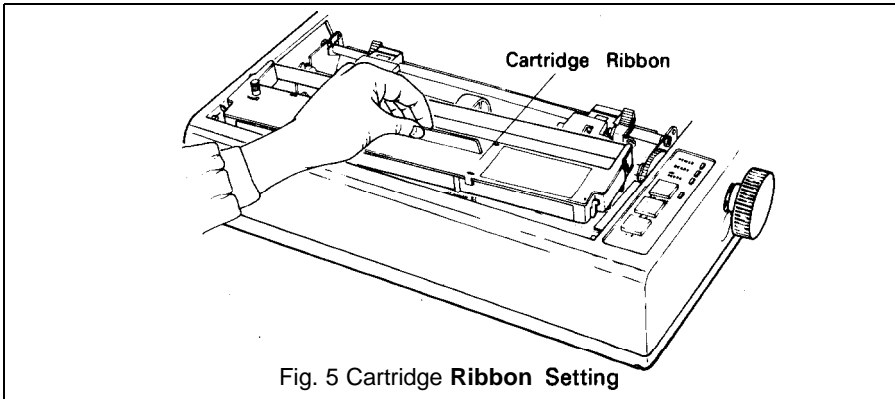

Fig. 5 Cartridge Ribbon Setting
STEP 3. Push the cartridge ribbon down and set it on the printer mechanism. To facilitate the cartridge ribbon setting, be sure to hold the projection at the center of the cartridge case when pushing the cartridge ribbon down. (See Fig. 5.)